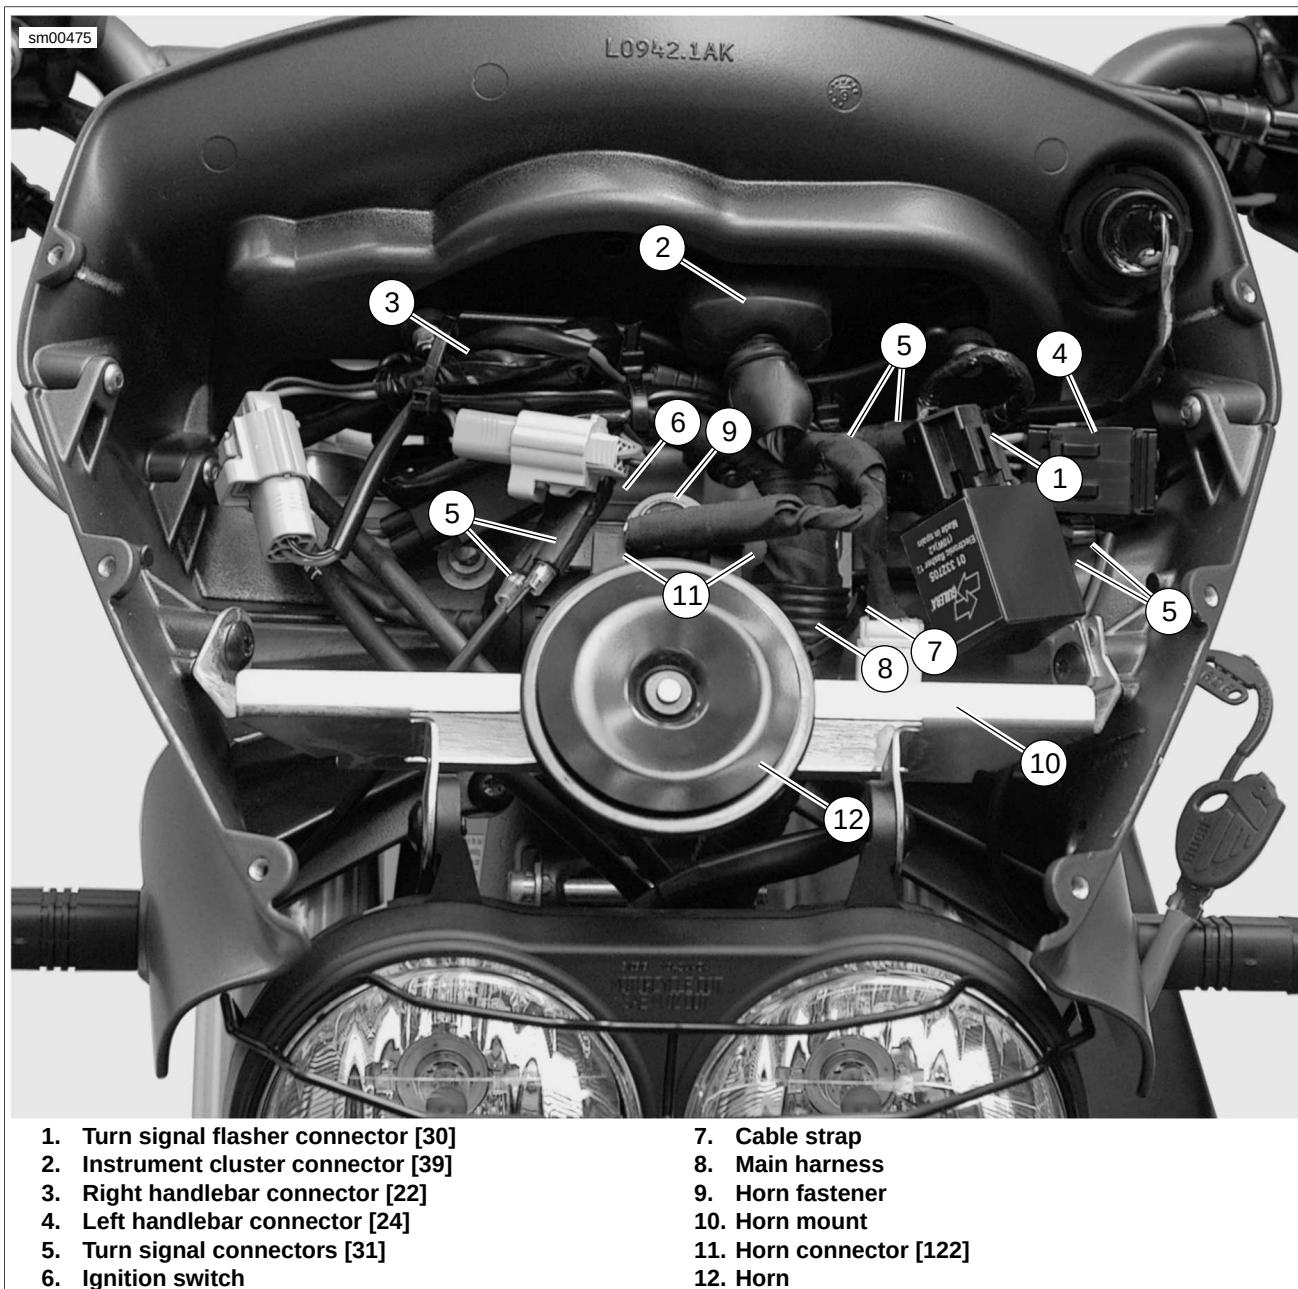

Figure 7-12. Electrical Connectors Behind Windscreen: Ulysses
4. See Figure 7-12. Cut cable strap (7) that loosely holds main wiring harness to the ignition switch and disconnect ignition switch connector [33].